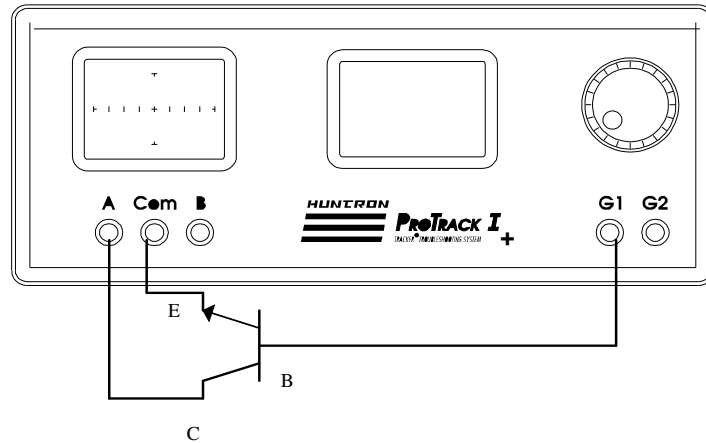

Figure 5-33. Pulse Generator Test Circuit For A NPN Transistor.
Figure 5-33 shows the test circuit for a NPN transistor using the pulse generator to drive the base. The constant current signature produced is similar to that produced by a transistor curve tracer except that only one curve is shown instead of a family of curves. This technique can be useful for functionally testing and matching transistor gain characteristics.
1. Setup the test circuit shown in figure 5-33 or 5-34 depending on what type of bipolar transistor you wish to test.